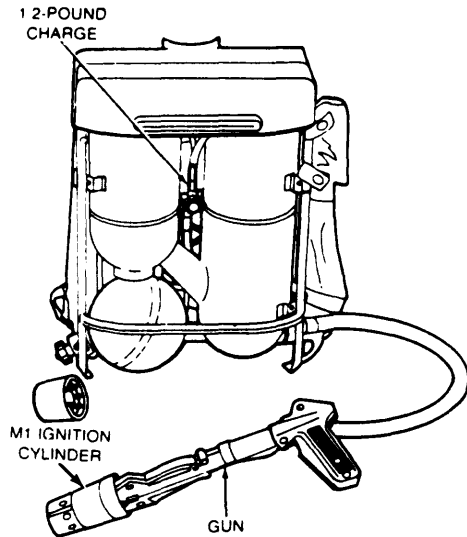

Figure 3-4. Explosive Charge Location for M2A1-7/M9-7/M9A1-7 Portable flame Thrower.
- (1) Fasten 1/2 pound explosive charge on top of pressure regulator (figure 3-4).
- (2) Tape, tie, or wire gun next to charge.